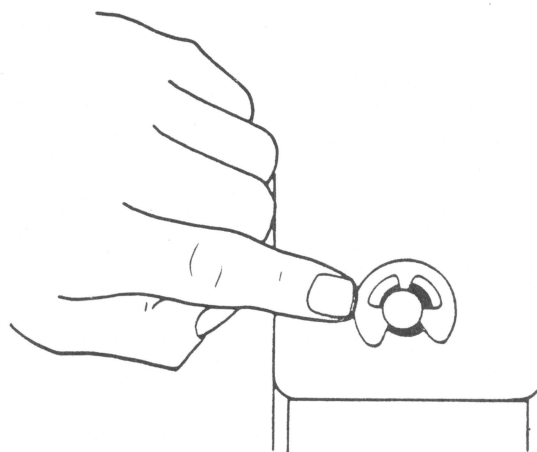

FIGURE 2
10. As a further check, open the door, push the collet shaft off-center (Figure 2), and then close and open the door a few times, making sure that the shaft reseats itself in the center of the hole.